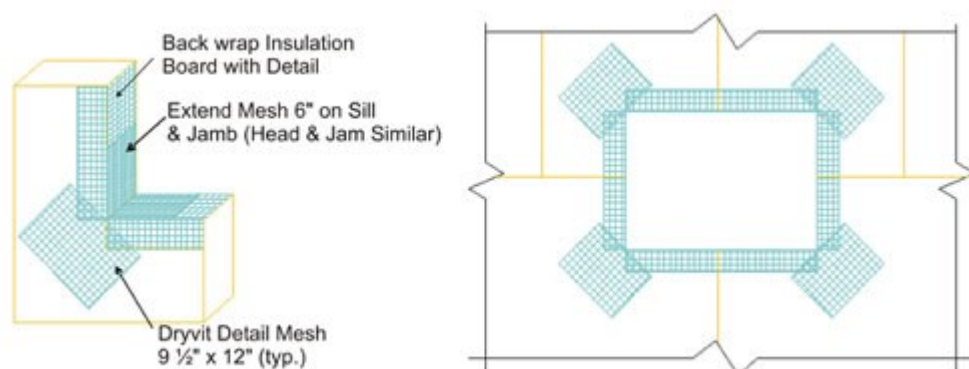

Fig. 10
20. Corners of all openings such as windows, doors, mechanical equipment and all penetrations shall be reinforced with Detail Mesh placed diagonally to the opening as illustrated in Figure 10.